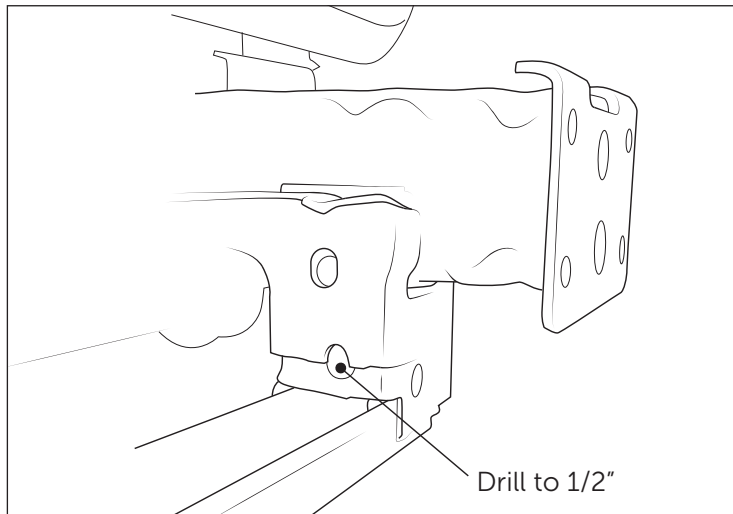

Figure 6
- Drill out the lower mounting hole to 1/2" as shown to allow the bolt to pass through (fig. 6).